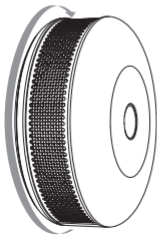

Fig. 7
7. Turn the device clockwise to close it (Fig. 7).